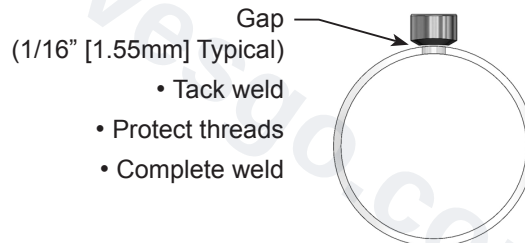

Figure 3. Weld Gap
- Using the appropriate weld gap (1/16" [1.5mm] typical), tack weld the thread-o-let into position (Figure 3).